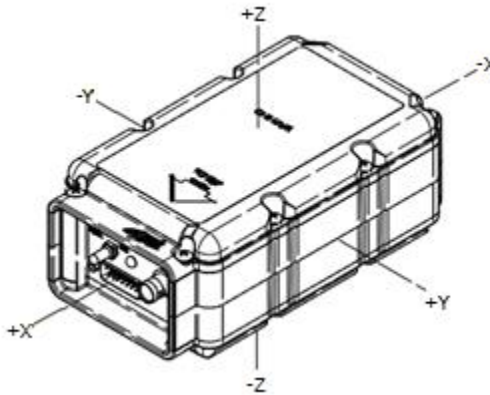

Figure 1 ELT Orthogonal Axes
- 2) The ME406P ELT is designed for helicopter installations and features a 5-axis G-Switch module in addition to the primary G-switch, which is oriented to line-of-flight. This design allows the ELT to be activated in all six axes. See Figure 1 ELT Orthogonal Axes.